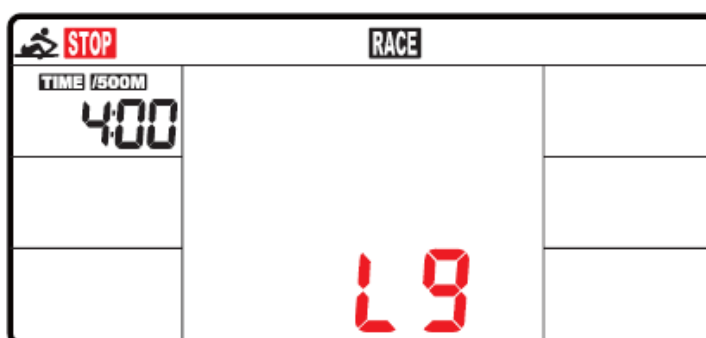

Fig. 5
2. **RACE (Fig.5):** Select RACE mode and L9 will flash. The TIME/500M will display 4:00. Then, press UP or DOWN to select L1 ~ L15. Press ENTER to confirm. Then, you can set the distance of the race (500M~10000M) while the value of DISTANCE is blinking. Press ENTER and the picture of the race will display on the screen. The TIME/500M of the programs are as follows: